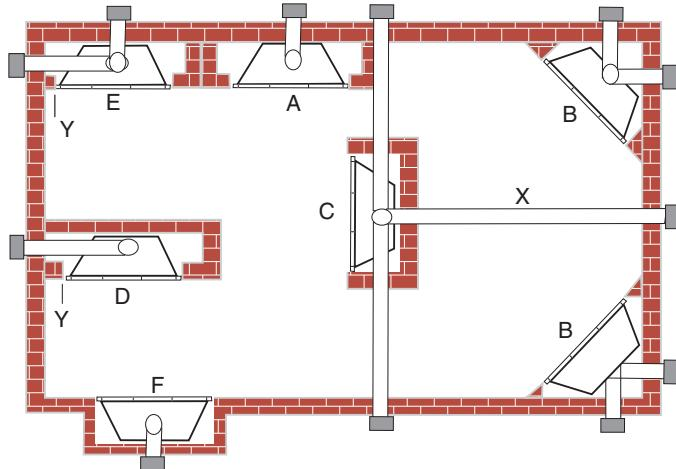

Figure 4 -
- This fireplace may be installed along a wall, across a corner, or use an exterior chase. Refer to *Figure 4* for suggested locations.